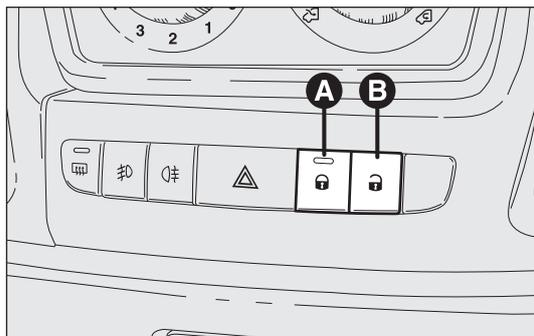

fig. 112
If one or more doors are open after pressing button **A** on the remote control, the direction indicators and the LED in the button **A**-fig. 112 flash quickly for approximately 3 seconds. The Buttons **A** and **B** fig. 112 are disabled with the function activated. Pressing button **A** on the remote control twice in quick succession activates the dead lock device (see "Dead lock").
Press the button A-fig. 112 to lock the doors, press button B to unlock the doors. The locking/unlocking actions take place centrally (front and rear). When the doors are locked, the LED in the button A is on and pressing button B brings about central unlocking of all the doors and turns off the warning light. When the doors are unlocked, the LED is off and pressing the button brings about central locking of all the doors. The doors will be locked only if all the doors are properly shut.
it will not be possible to unlock the doors using button A-fig. 112 located in the controls in the dashboard.
- locking/unlocking buttons A-B fig. 112;
Device activation is indicated by 3 flashes of the direction indicators and the flashing of the LED on button A-fig. 112 on the dashboard.